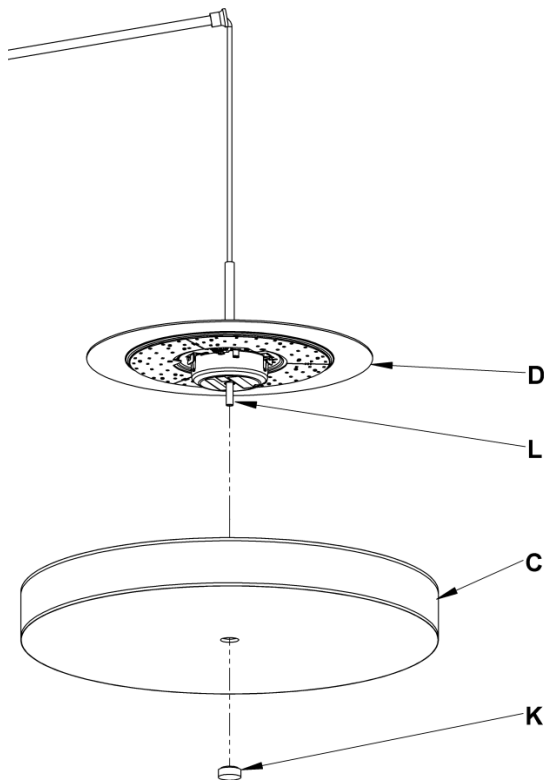

Figure 5
5. Raise shade/diffuser assembly (C) up so that upper diffuser presses against fixture.
6. Secure shade/diffuser assembly (C) in place by attaching finial (K). Be sure not to over tighten.
7. Carefully remove protective plastic wrap from shade/diffuser assembly (C). Do not use a knife to cut the plastic wrap.
8. To adjust height of fixture head (D), lift fixture pipe (E) to relieve tension on the cable (F). (See Detail A of Figure 5)